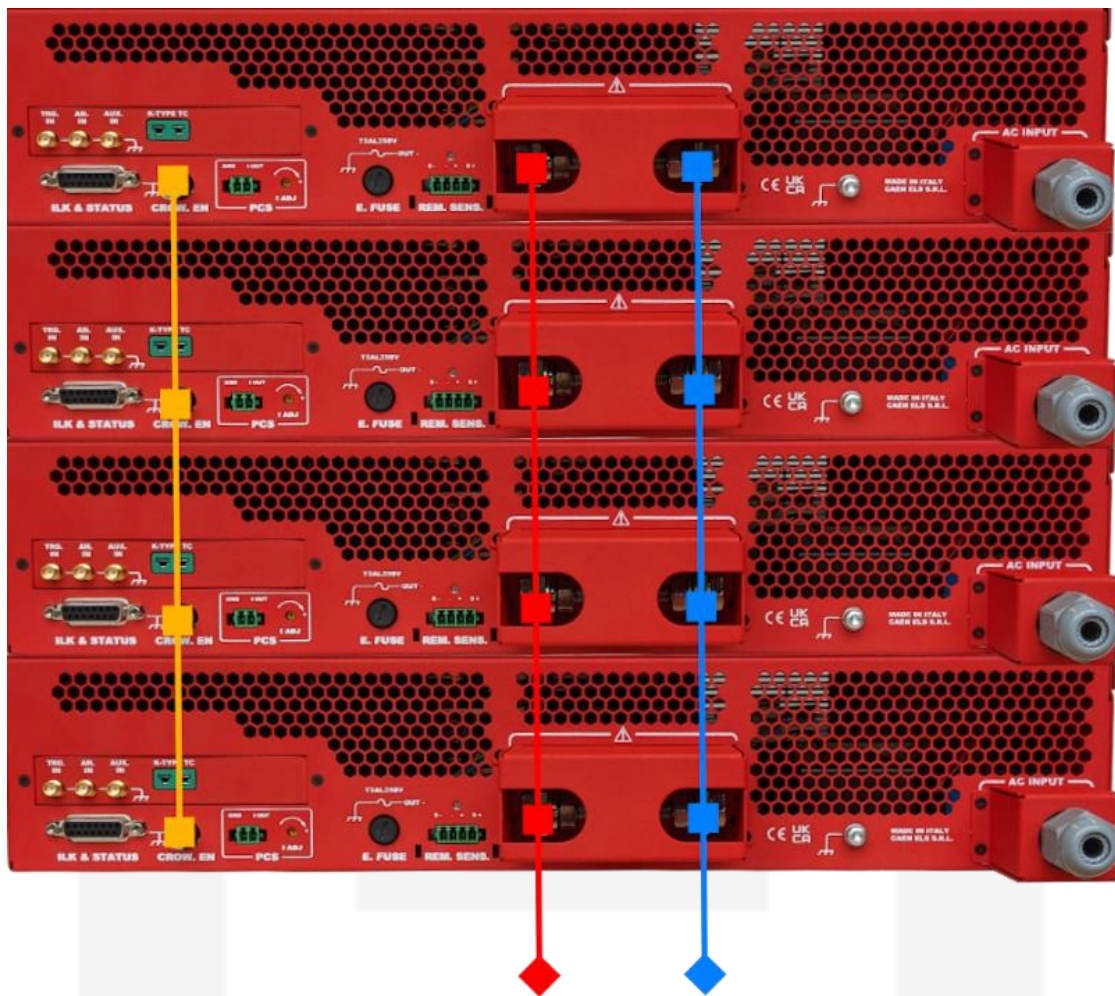

Figure 34: Parallel configuration, rear panel.
- Connect PS output terminals with proper cables or busbars in order to put the PSs in parallel configuration following the connections reported in **Figure 34** (blue and red lines);
- Connect the crow-bar cables on the rear panel following the connections reported in **Figure 34** (orange lines);